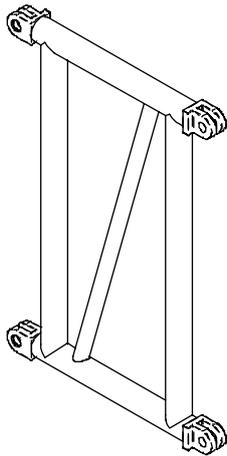

Fig. 15
1. place a 47 cm gate (figure 15).